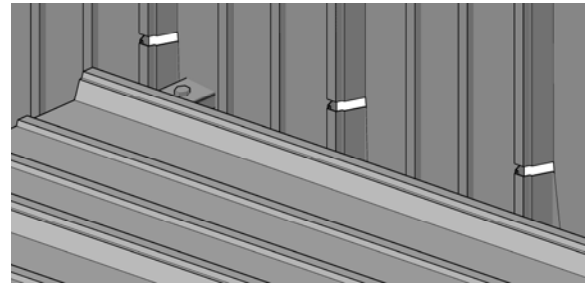

FIGURE 12
3. Cut each of the major ribs as shown in Figure 12 following the roof slope. **Do not cut the minor ribs or the flat of the panel.** If the end of the roof sheet ends on a major rib, only cut the portion of the rib in line with the roof panel.